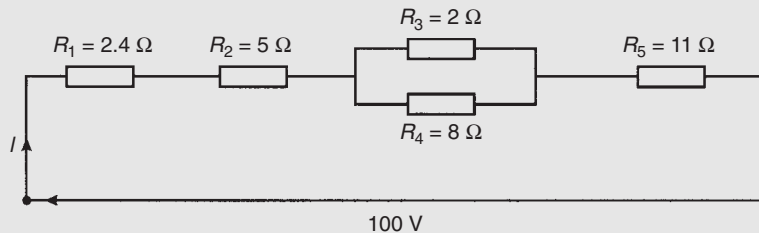

Figure R2.1
- Resistances of  $5\ \Omega$ ,  $7\ \Omega$ , and  $8\ \Omega$  are connected in series. If a  $10\ \text{V}$  supply voltage is connected across the arrangement determine the current flowing through and the p.d. across the  $7\ \Omega$  resistor. Calculate also the power dissipated in the  $8\ \Omega$  resistor. (6)
- For the series-parallel network shown in Fig. R2.1, find (a) the supply current, (b) the current flowing through each resistor, (c) the p.d. across each resistor, (d) the total power dissipated in the circuit, (e) the cost of energy if the circuit is connected for 80 hours. Assume electrical energy costs 14p per unit. (15)
- The charge on the plates of a capacitor is  $8\ \text{mC}$  when the potential between them is  $4\ \text{kV}$ . Determine the capacitance of the capacitor. (2)
- Two parallel rectangular plates measuring  $80\ \text{mm}$  by  $120\ \text{mm}$  are separated by  $4\ \text{mm}$  of mica and carry an electric charge of  $0.48\ \mu\text{C}$ . The voltage between the plates is  $500\ \text{V}$ . Calculate (a) the electric flux density (b) the electric field strength, and (c) the capacitance of the capacitor, in picofarads, if the relative permittivity of mica is 5. (7)
- A  $4\ \mu\text{F}$  capacitor is connected in parallel with a  $6\ \mu\text{F}$  capacitor. This arrangement is then connected in series with a  $10\ \mu\text{F}$  capacitor. A supply p.d. of  $250\ \text{V}$  is connected across the circuit. Find (a) the equivalent capacitance of the circuit, (b) the voltage across the  $10\ \mu\text{F}$  capacitor, and (c) the charge on each capacitor. (7)
- A coil of 600 turns is wound uniformly on a ring of non-magnetic material. The ring has a uniform cross-sectional area of  $200\ \text{mm}^2$  and a mean circumference of  $500\ \text{mm}$ . If the current in the coil is  $4\ \text{A}$ , determine (a) the magnetic field strength, (b) the flux density, and (c) the total magnetic flux in the ring. (5)
- A mild steel ring of cross-sectional area  $4\ \text{cm}^2$  has a radial air-gap of  $3\ \text{mm}$  cut into it. If the mean length of the mild steel path is  $300\ \text{mm}$ , calculate the magnetomotive force to produce a flux of  $0.48\ \text{mWb}$ . (Use the B–H curve on page 74) (8)